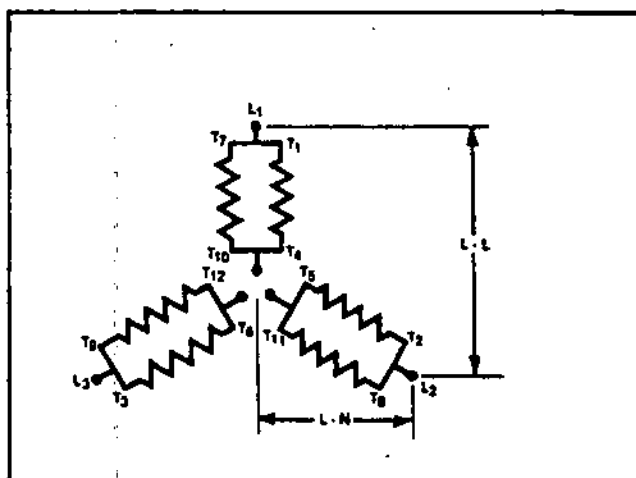

Figure 2.3-C. 3-Phase, 12-Lead, Low Wye Connection System
2.3.5- 3-PHASE, 12-LEAD, LOW WYE CONNECTION SYSTEM (Figure 2.3-C)